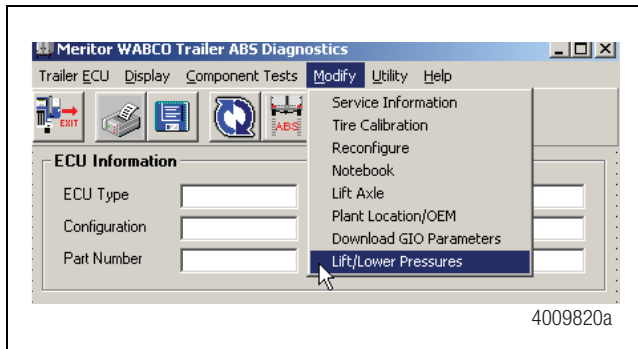

Figure 7
1. Activate TOOLBOX™ Software on your PC. Select the **Lift/Lower Pressures** option from the **Modify** pull-down menu. Figure 7.